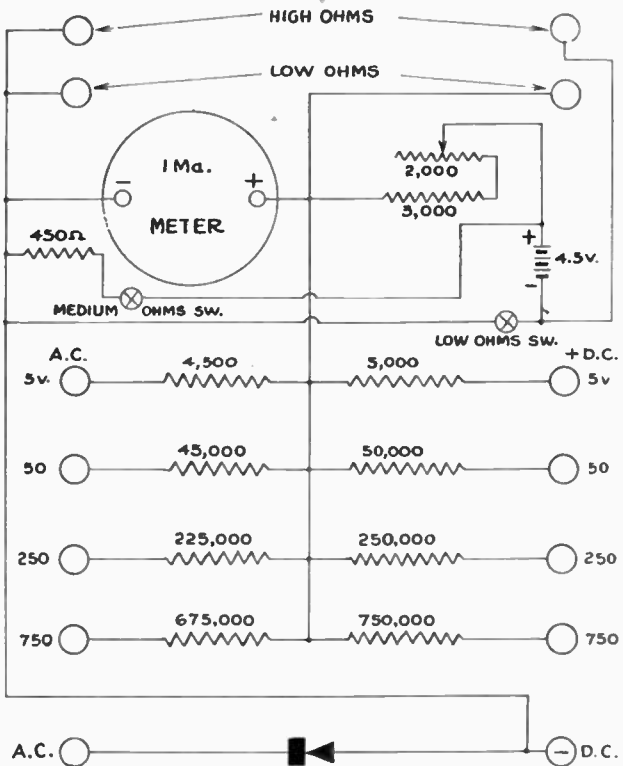

Fig. 608
A. The schematic is given in Fig. 608. You will find the 5-volt a.c. scale will not be correct, and your resistor will have to be varied from the original value of 4,500 ohms to allow for the resistance of the rec-